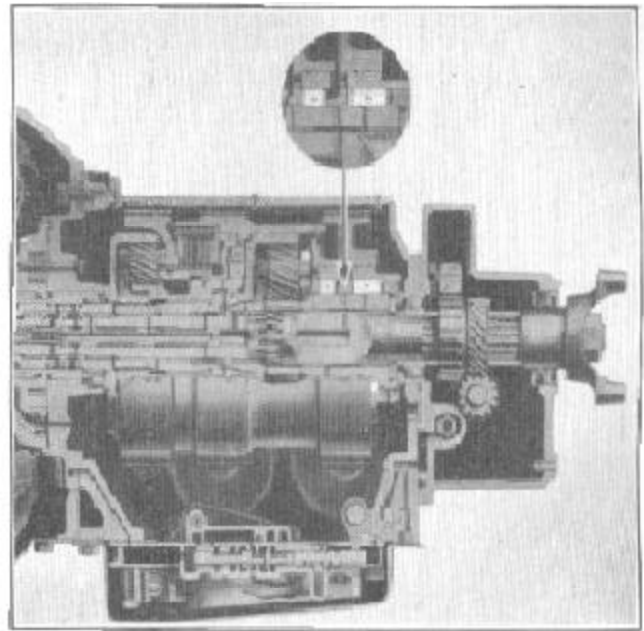

FIGURE 12
8. Two free wheeling units, Figure 12, simplify the valving required to accomplish